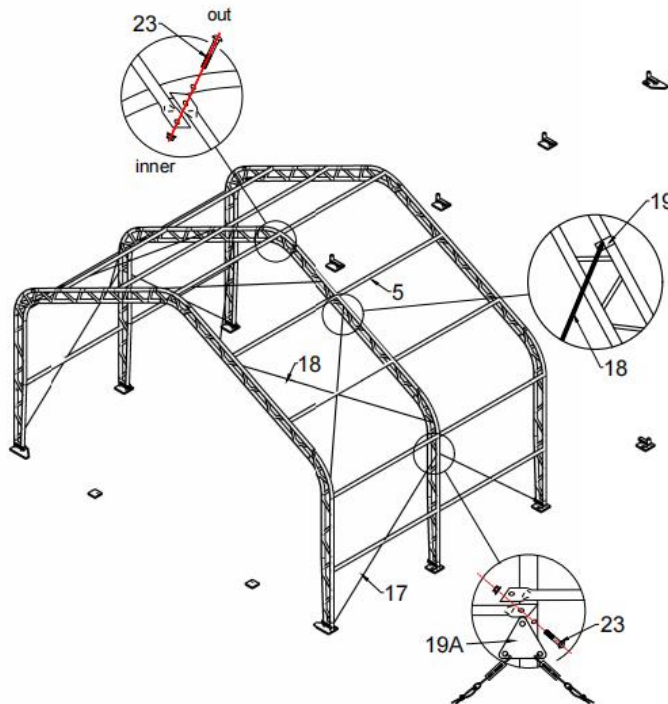

Figure 6
3. Connect purlin (No.5) to arch by using carriage bolt 10x90mm (No.23) by turns (see Figure 6), then connect the steel wire (No.17 and No.18) on top and side by using clip (No.19).